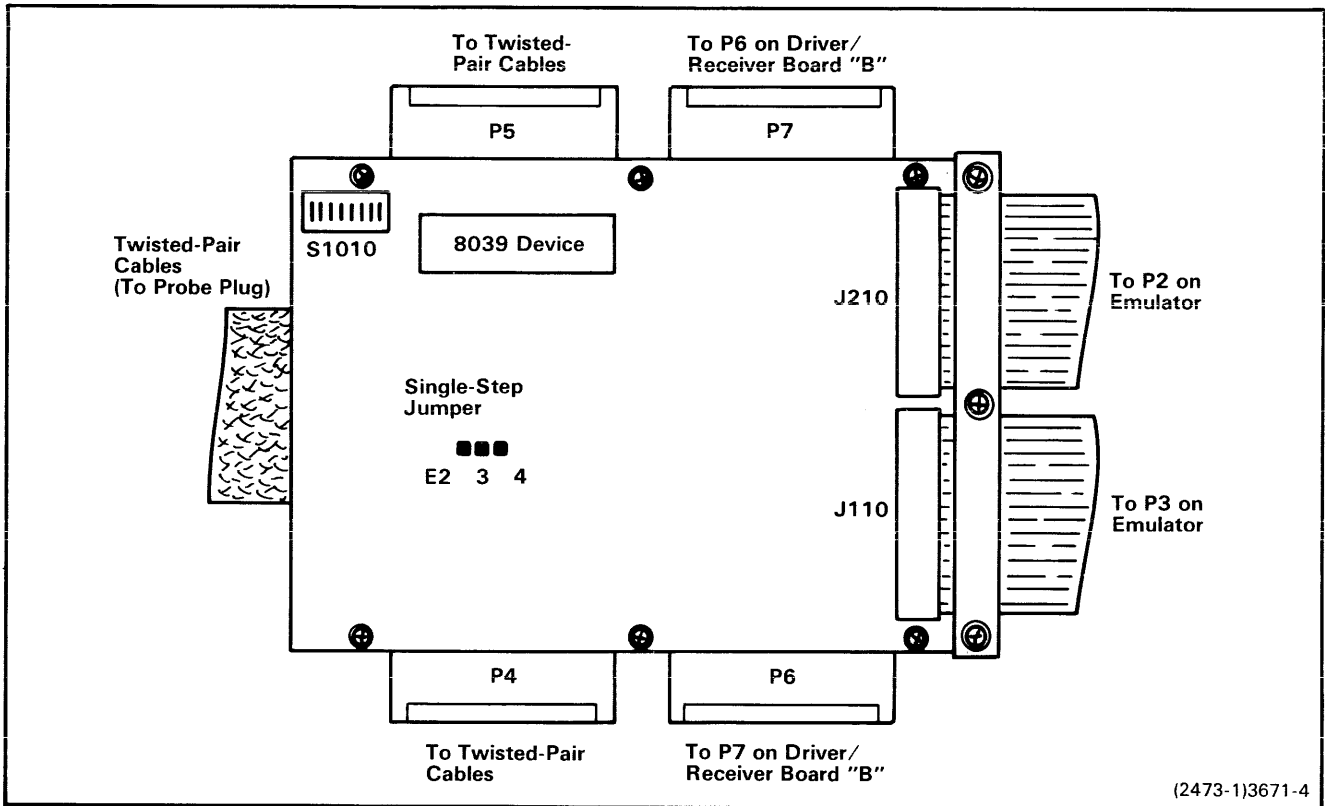
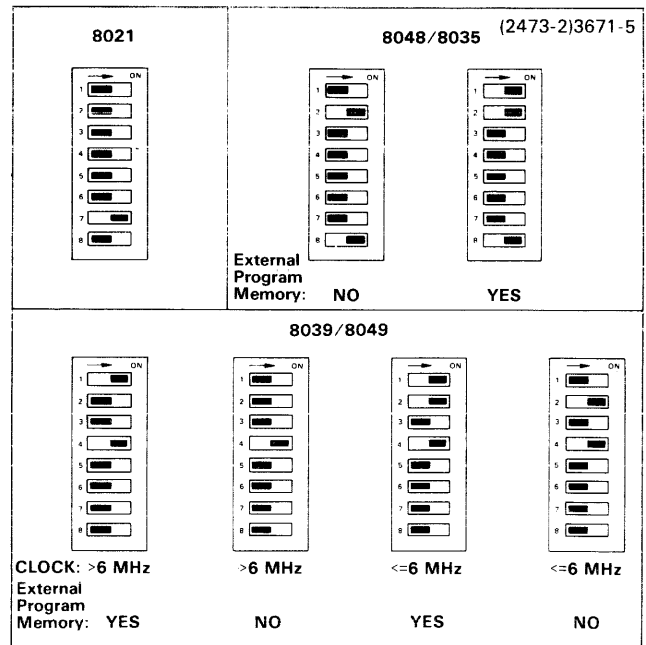

Fig. 2-2. 8048/8021 Prototype Control Probe; switch and jumper locations.
Fig. 2-3. 8048/8021 Prototype Control Probe switch settings.
A Configuration Switch (S1010) is located on Driver/Receiver board "A" in the 8048/8021 Prototype Control Probe's interface assembly (see Fig. 2-2). S1010 is an 8-bit DIP switch package that determines which microcomputer is to be emulated, and also selects external memory, if applicable. Refer to Fig. 2-3 for details of S1010 switch settings.
The Single Step jumper determines when the user may single-step the processor during program execution. Figure 2-2 shows the location of this jumper on Driver/Receiver board "A".
5. Install the 8021 Probe Adapter in the interface assembly in place of the 8048 cable assembly that you just removed. Carefully pass the cables through the front of the interface assembly housing, then attach the cable edge-connectors to board "A" connectors P4 and P5, as shown in Fig. 2-2. Ensure that the labels on